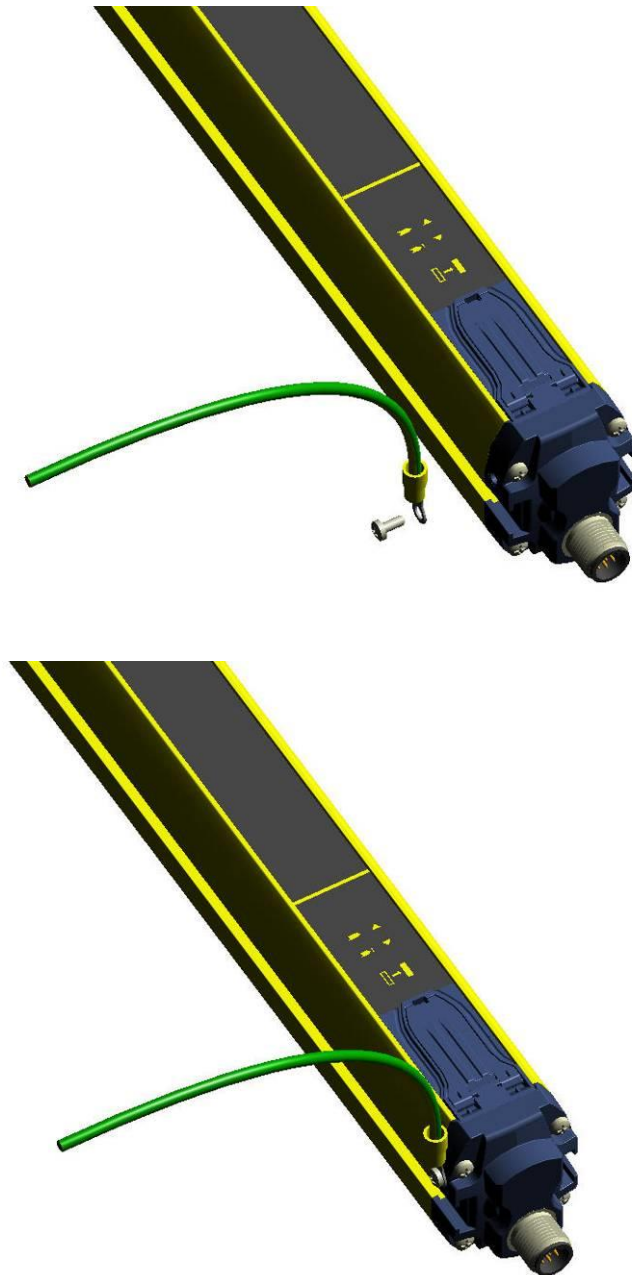

Fig. 13
- The ground connection of the two units depends on the electrical protection class to be guaranteed (see section 9 “*Technical Data*” for more information). This connection can be carried-out using the screw supplied, which can be put into the proper threaded hole on the cap (see Fig.13).